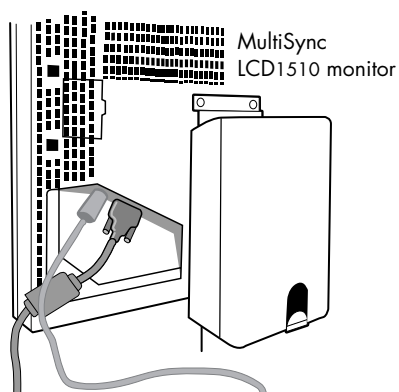

Figure C.1
**NOTE: To obtain the MultiSync LCD1510, MultiSync LCD1510V or MultiSync LCD2010 Macintosh cable adapter, call NEC Technologies at (800) 820-1230.**
3. **For the MultiSync LCD1510 and MultiSync LCD1510V:** Connect the 15-pin mini D SUB of the video signal cable and AC Adapter cable to the appropriate connectors on the back of the monitor (**Figure C.1**).